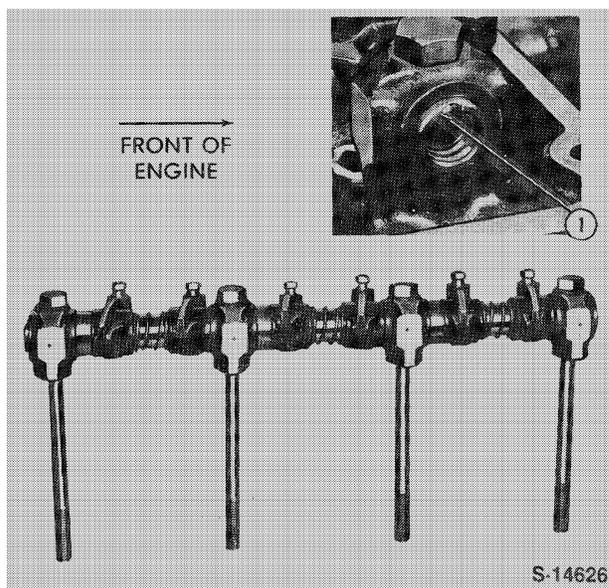

Figure 18
4. Coat all components with engine oil and position the notch on the front of the rocker shaft upwards to correctly locate the oil holes, Figure 18.